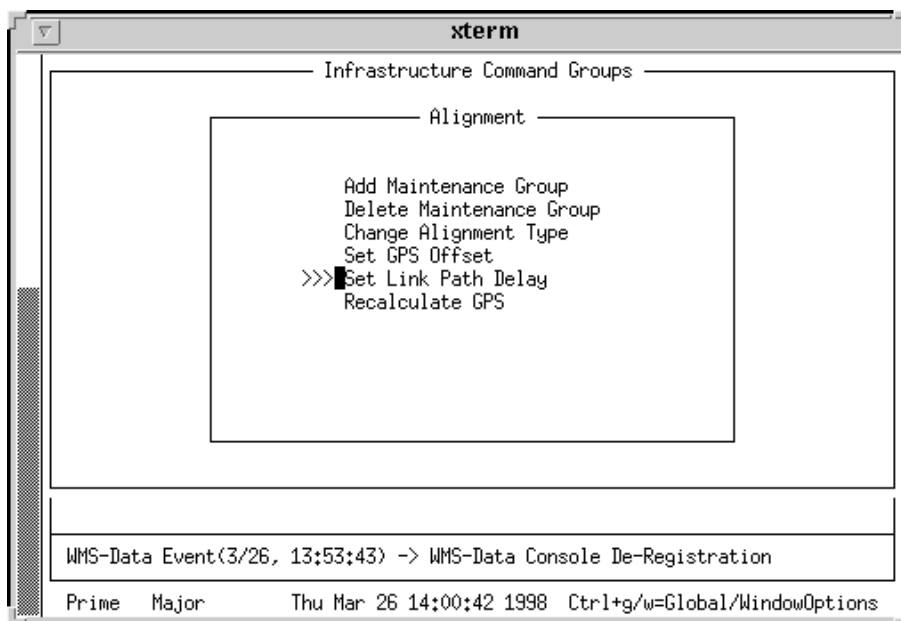

Figure 3-10: Alignment Menu—Setting Link Path Delay
1. From the Alignment menu, use the <tab> to position the cursor to the left of the listing Setting Link Path Delay and press: <Return> (see Figure 3-10).